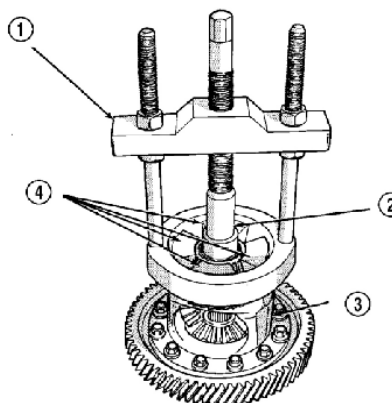
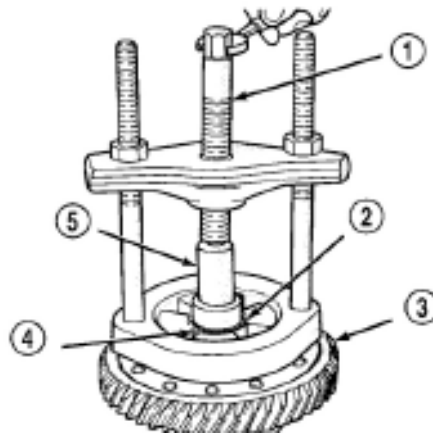

Figure 3-81 Disassembly differential bearing taper sleeve along the edge of differential casing
Figure 3-82 Disassembly of differential bearing taper sleeve via ring gear
(1) Disassemble differential bearing taper sleeve with C-293-PA, joint C-293-45 and tool 4996 (ring gear and differential casing edge) (Figure 3-81 and Figure 3-82).